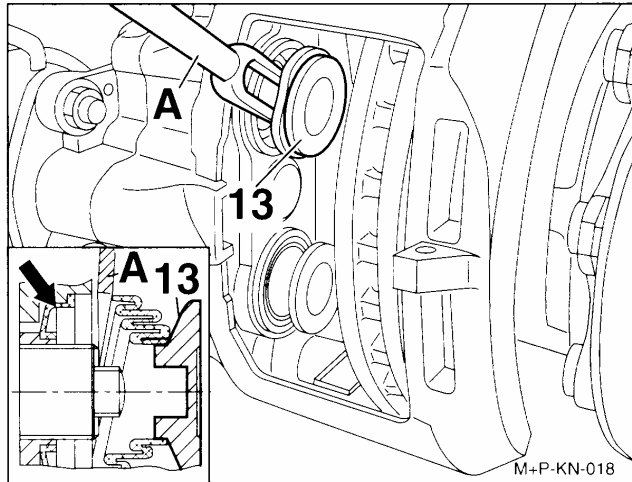

FIGURE 10: RUBBER BOOTS
- b. If boots are damaged but show no corrosion, the boots and tappets should be replaced (part #611177) (fig. 10).